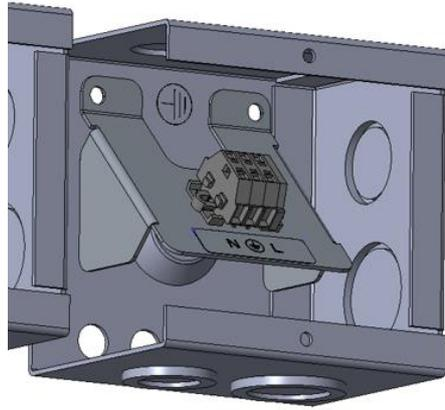

Fig. 43 *Power supply terminal board inside the junction box*
- D. Insert the external power supply cables into the cable gland and fasten them to the terminal board inside the junction box (Figure 43).